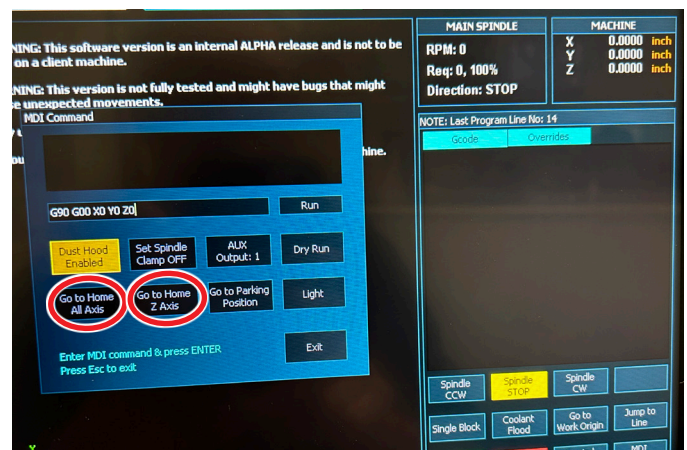

FIGURE 2
2. If you want to move your axis to the “Machine Zero” position (to each homing switch), use the same MDI Command page and touch “Go Home Z Axis” for the Z-axis only (this is very useful), or touch “Go Home All Axis” and all axes will go to machine zero in the same order that the machine goes to home when you turn it on (see Figure 2).